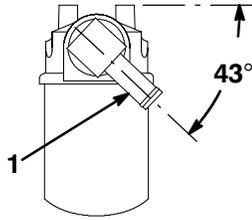

Figure 5
4. Thread the 3/4" NPT 90° fitting into the hydraulic filter head and position as shown in figure 5.